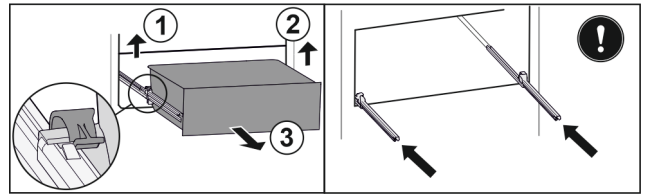

Fig. 97
- ▶ Lift left clamp and simultaneously pull drawer forwards on the left. *Fig. 97 (1)*
- ▶ Lift right clamp and simultaneously pull drawer forwards on the right. *Fig. 97 (2)*
- ▶ Remove drawer to the front. *Fig. 97 (3)*